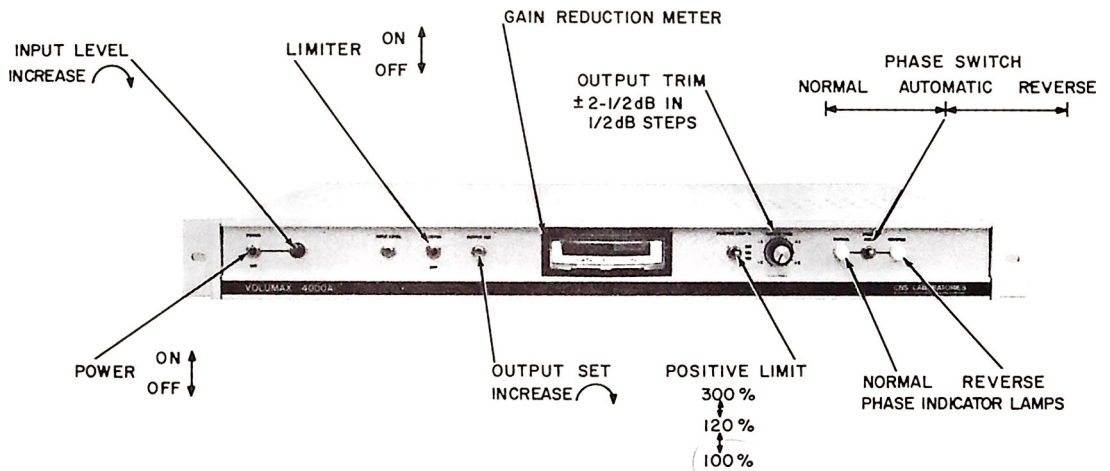

Figure 3-1. Volumax Model 4000A Front-Panel Controls
- 1) Turn the OUTPUT SET control (figure 3-1) fully counter-clockwise.
- 1) Turn the OUTPUT SET control (figure 3-1) fully counterclockwise.
- 2) Adjust the INPUT LEVEL control (figure 3-1) as necessary to cause the GAIN REDUCTION meter to operate in the green or NORMAL area with occasional peaks deflecting into the red region.
The compression action of Volumax can be disabled by placing the LIMITER switch (figure 3-1) in the OFF position. When this is done, however, the amplifier section of the Volumax unit must not be driven at levels significantly higher than in normal operation. Proceed as follows: